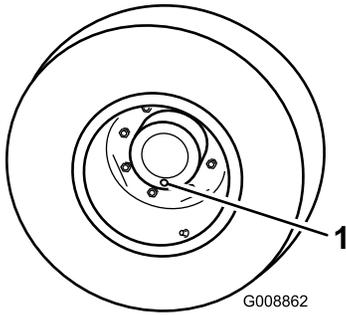

Figure 82
1. With the machine on a level surface, position a wheel so that a check plug is at the lowest (6 o'clock) position (Figure 82).